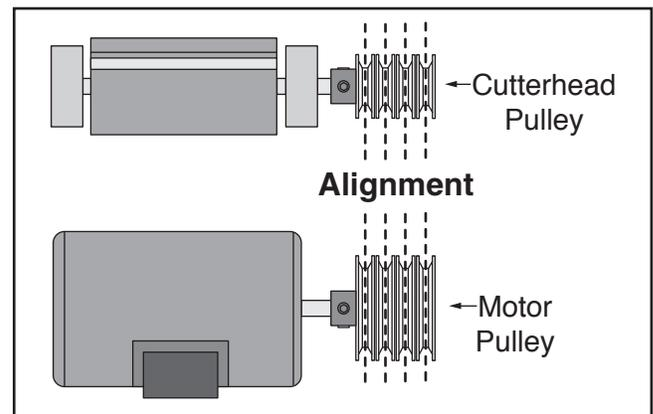

Figure 94. Pulleys correctly aligned.
3. Visually check alignment of both pulleys to make sure they are aligned and V-belts are straight up and down, as shown in **Figure 94**.
3. Visually check alignment of both pulleys to make sure they are aligned and V-belts are straight up and down, as shown in **Figure 94** on **Page 62**.